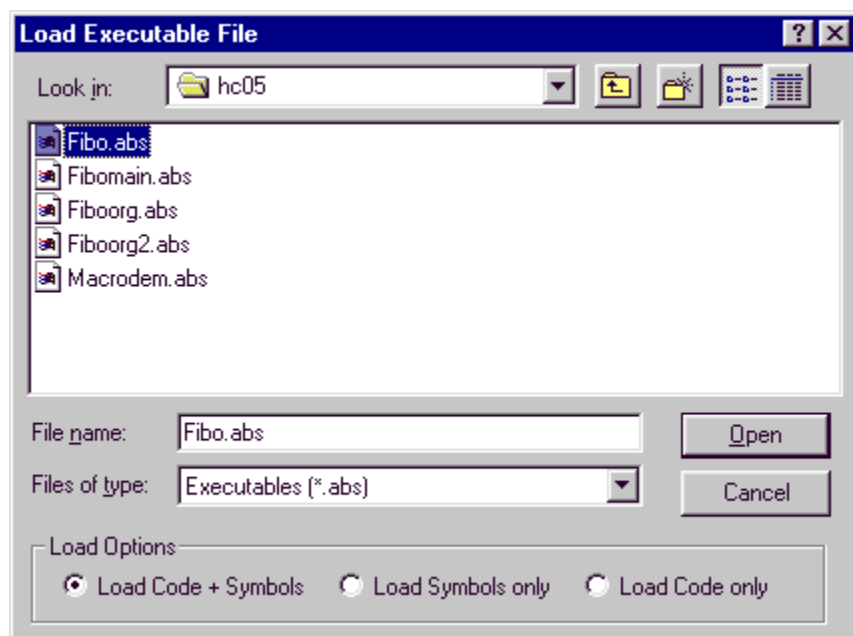

Figure 4-2. Load Executable File Dialog Box
1. Select **Load** in the target menu (for example, MMDS0508) to open the **Load Executable File** dialog box (Figure 4-2). The target menu is located between the **Run** and **Component** menus.